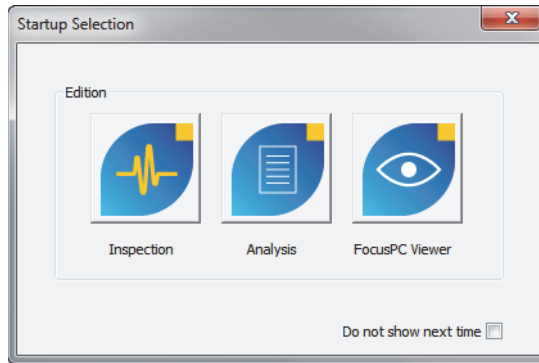

Figure 1-27 Startup Selection dialog box
5. In the **Startup Selection** dialog box that appears (Figure 1-27 on page 43), click the button associated with the desired FocusPC edition.